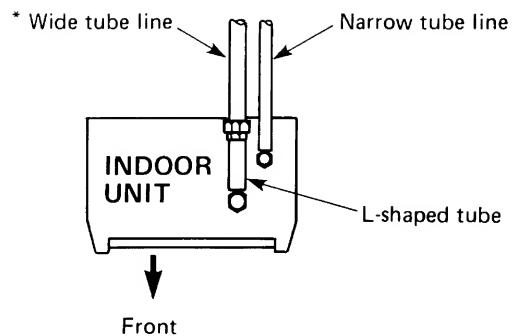

Fig. 11
- a) Tubing to the rear (Fig. 11)